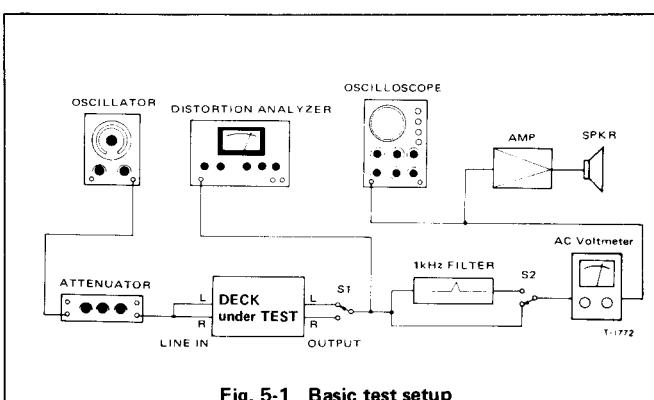

Fig. 5-1 Basic test setup
16. Erase efficiency	<ul style="list-style-type: none"> <li>Connection is same as in Fig. 5-1, but engage 1-kHz filter.</li> <li>Record a 1-kHz signal. Rewind tape to midpoint of recorded portion. Record a "no signal" portion. Find the difference between the 1-kHz portion and the "no-signal" portion.</li> </ul>